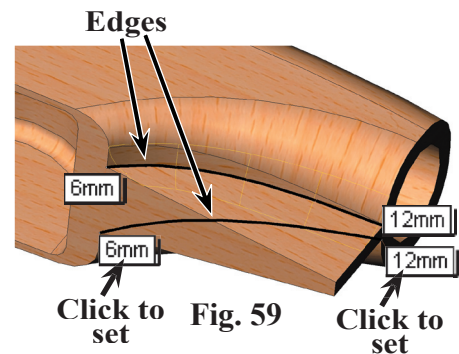

Fig. 59
Step 2. Click the both edges under cartridge cutout, **Fig. 59**.
Set the **Unsigned Variable radius to 12 in the rear and 6 in the front**. To set radius, click **Unsigned** and key in radius, **Fig. 59**.